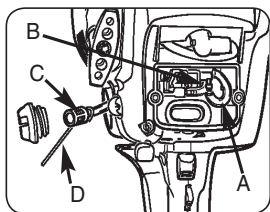

Fig. 15
2. Disconnect fuel hose (A) from carburettor fitting.
3. Pull fuel filter (C) out of tank with a bent wire (D) or long needle nosed pliers. Disconnect filter and discard.
5. Reconnect fuel hose (A) to carburettor fitting (B). Replace air filter and air box cover (Fig. 15).